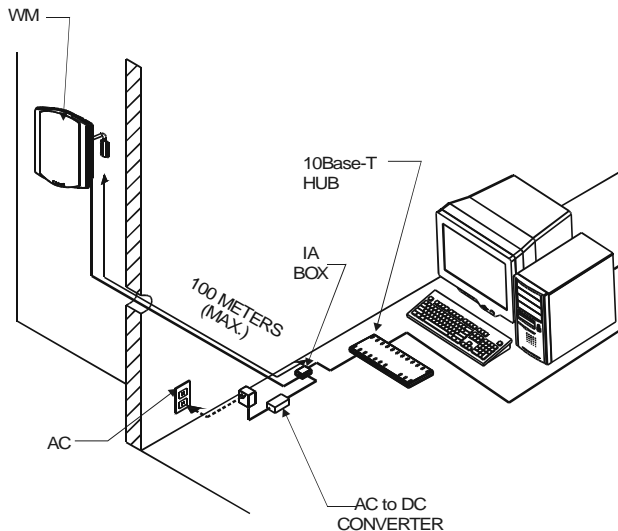

Figure 5-2 Maximum Distance from xDR232 to PC
- The maximum distance from an **xDR232** to an internal AC power source is 100 m (300 ft.). The maximum distance between an **xDR232** and PC (10Base-T hub) is 100 m (300 ft.), as shown in Figure 5-2.